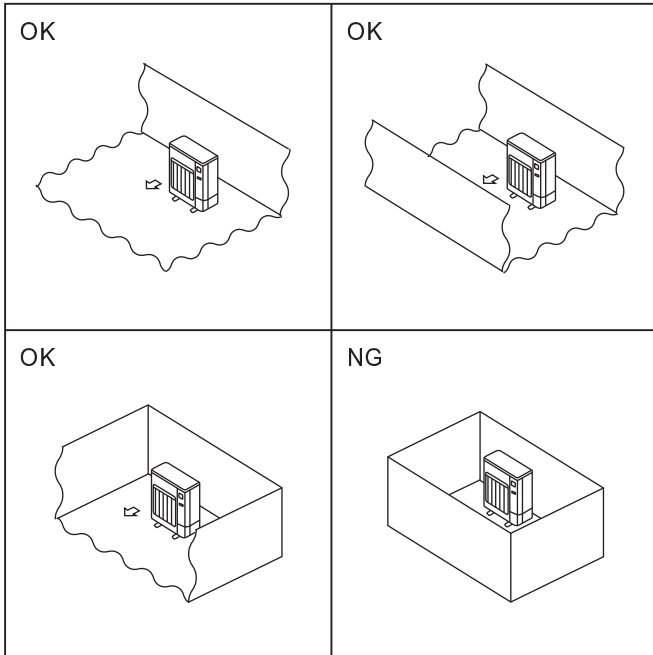

Fig. 2-1
- ◎ Install outdoor units in a place where at least one of the four sides is open, and in a sufficiently large space without depressions. (Fig. 2-1)